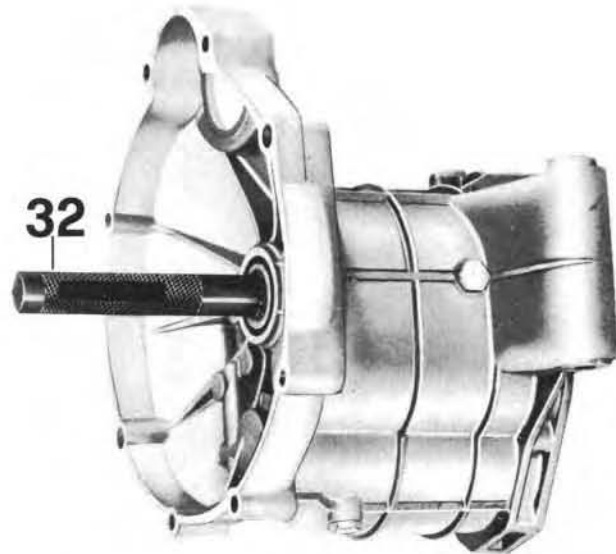

Fig. 84/1
- remove clutch shaft bearing using punch 14929200 (32 in fig. 84/1).